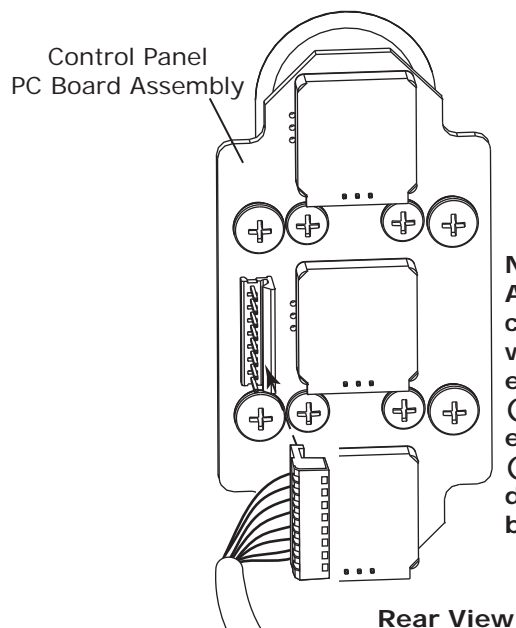

Figure 2
5. Plug the control panel wiring harness into the control panel and the ECU on the evaporator (See Figure 2, Page 5).